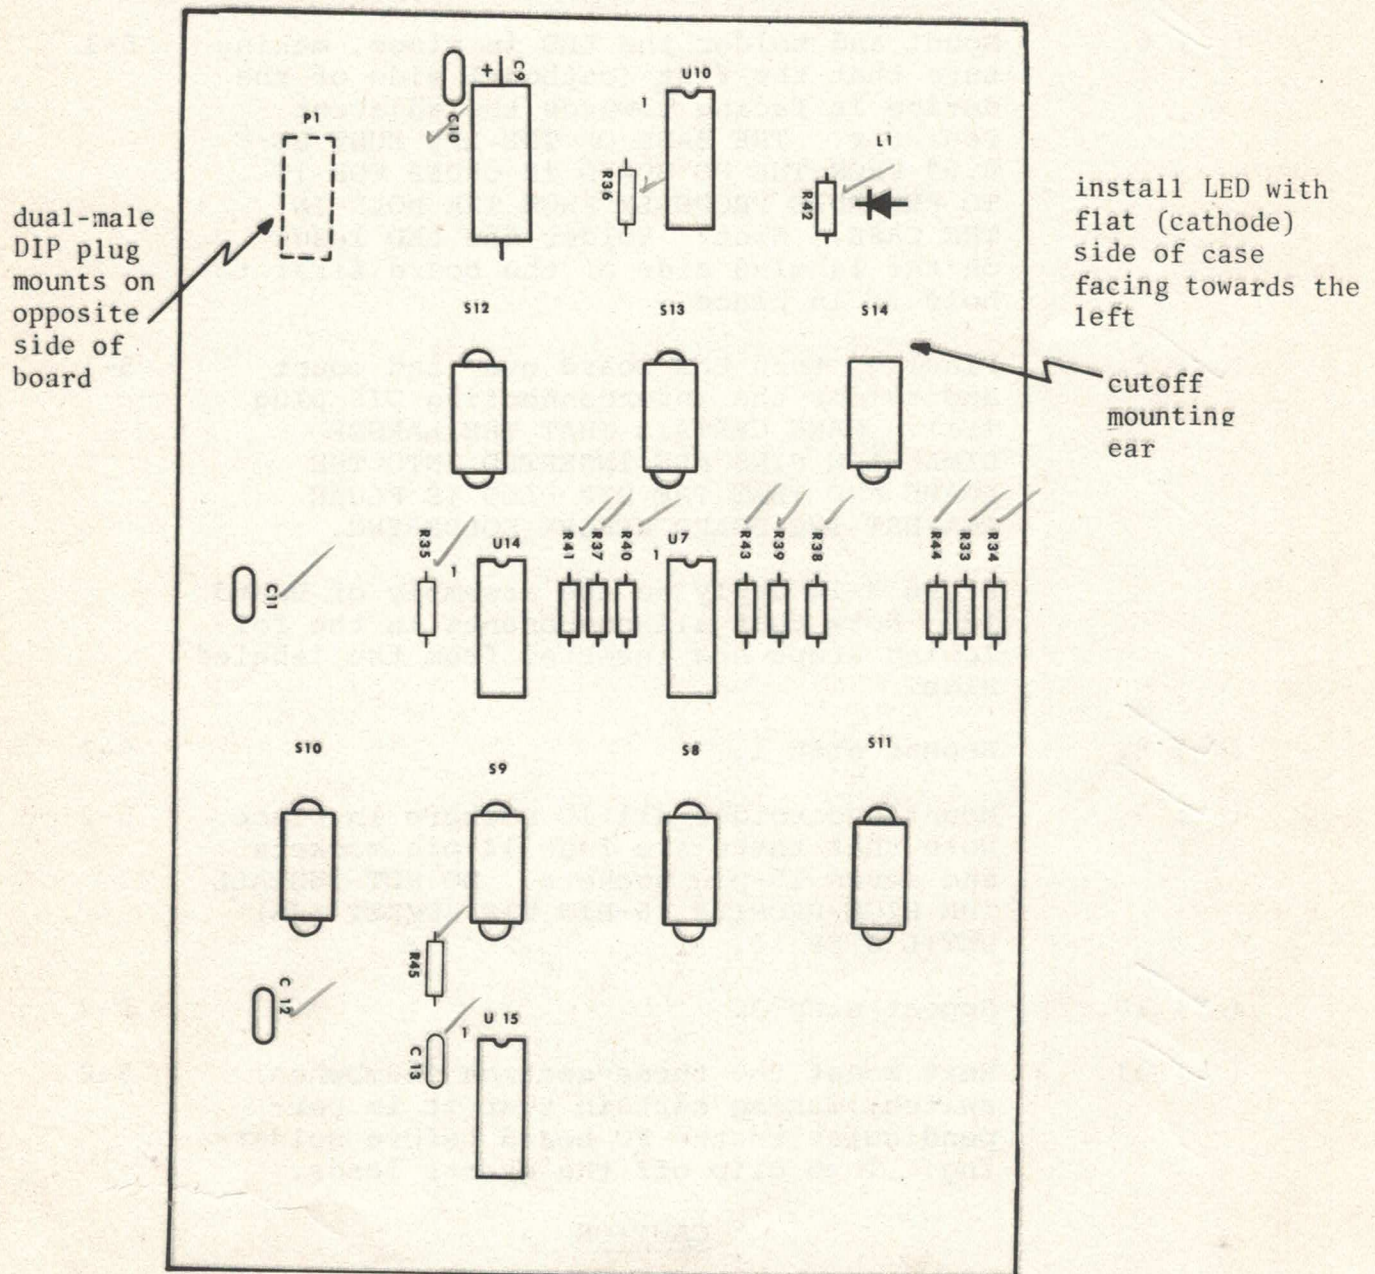

Fig. 5-1. Model 10 Board #1 component layout.
2. "Color in" components as you locate them in the assembly drawings of Figure 5-1 and 5-2.
1. Check to make certain that all IC's are located correctly and oriented with pin 1 in the proper position. If an IC has been installed backwards and power is applied, it will probably overheat and be destroyed. See Figures 5-1 and 5-3.